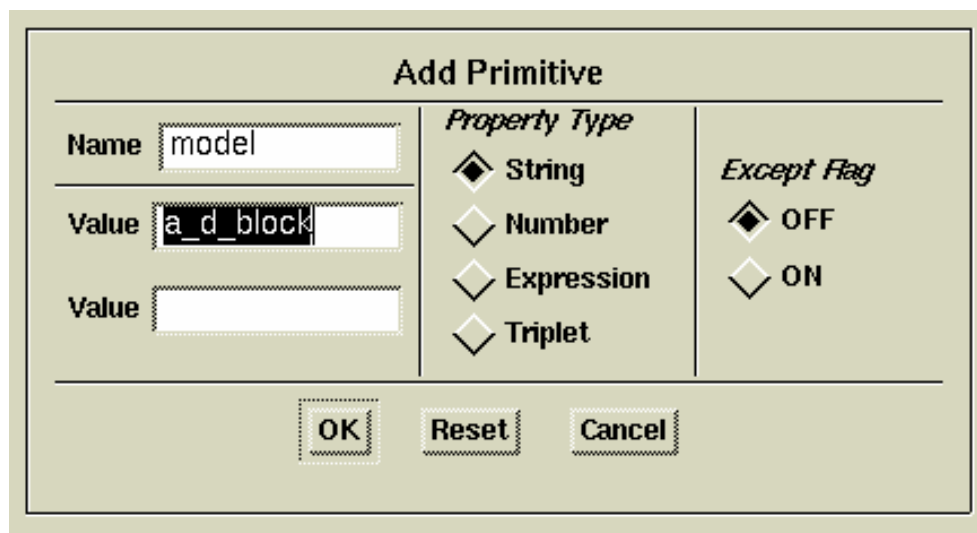

Figure 3-31. Add Primitive Dialog Box
10. Complete the Add Primitive dialog box as shown in Figure 3-31, then click the **OK** button.